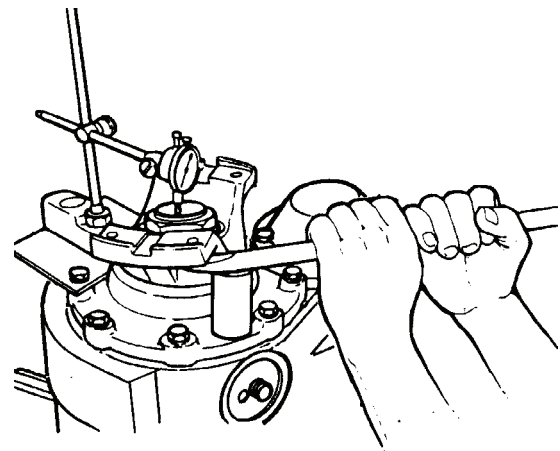

Figure 100.
- Use a pry bar and a support to push the yoke away from the carrier. Read the dial indicator. The reading must be 0.002–0.008 inch (0.050–0.200 mm). Figure 100.